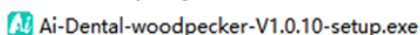

Figure 3
1. The software installation package is in the USB flash drive. Insert the USB flash drive into the computer interface and double-click to run the installation program, as shown in Figure 3.